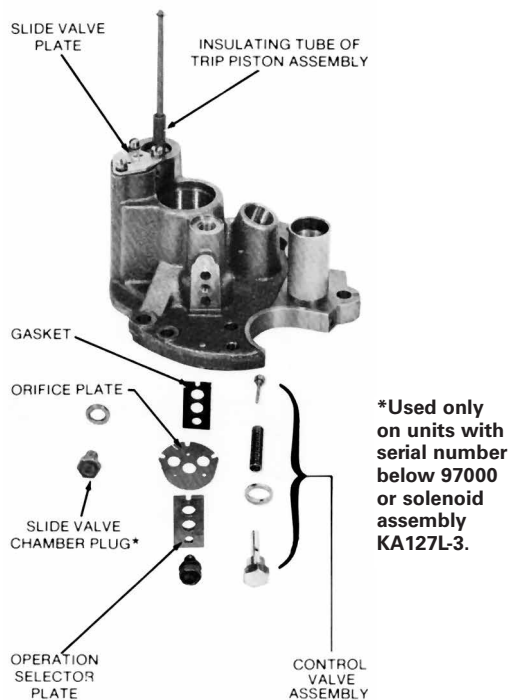

Figure 26. Hydraulic mechanism partially assembled
5. Remove the slide valve chamber plug and gasket by means of a 5/8-in. wrench. Parts removed in steps 3, 4, and 5 are shown in Figure 26.